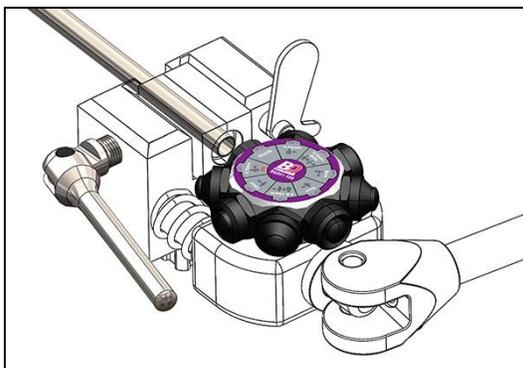

Figure 7
5. Rotate the punch turret to align the required Operation 2 punch with the tube (**Figure 7**).